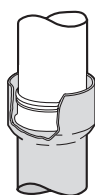

Fig.40a Positioning seal ring in socket
**Step 1** – Place rubber seal ring over spigot to half depth of socket (Fig.40a)